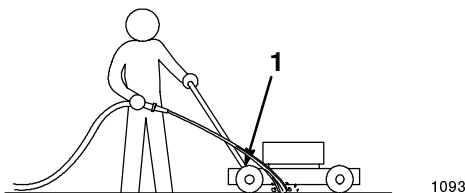

Figure 21
3. Hold the running garden hose at handle level and direct the water to flow on the ground just in front of the right rear tire (Fig. 21).